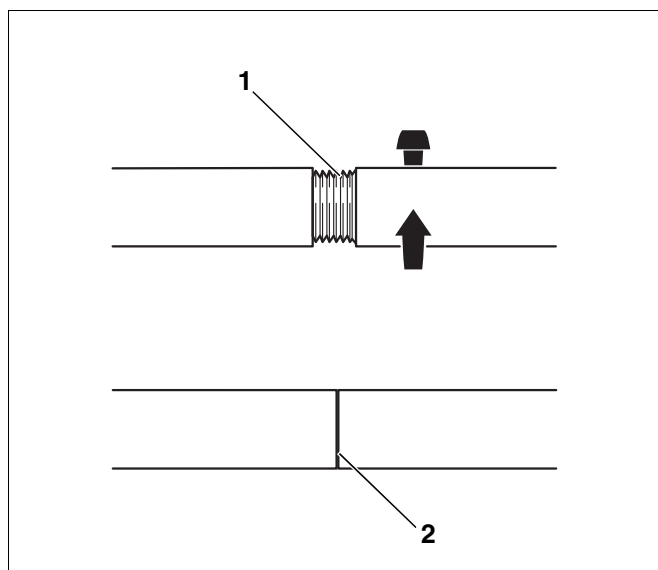

Fig. 20 Boiler compression tool 2.3
- Always check the pull rods before each use and retighten as necessary. The pull rod is correctly positioned if it is fully inserted and no thread is showing (Fig. 20, [2]).
- Always keep the thread (Fig. 20, [1]) clean. Dirty threads may damage the compression tool during compression.